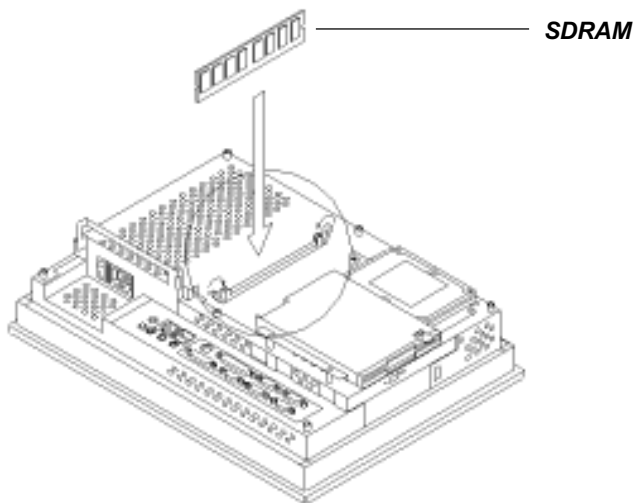

Figure 4-4: Installing the SDRAM
2. Push the two white eject levers on each side of the DIMM outward until they are separated from the black vertical posts. (See Fig. 4-4.)